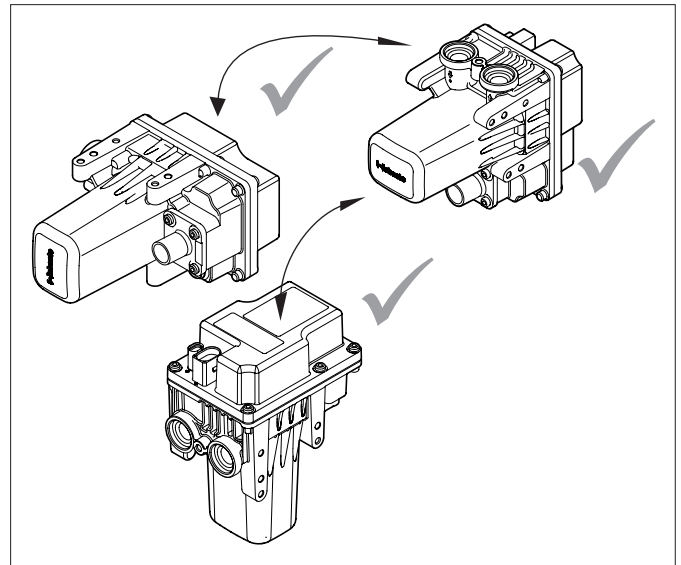

Fig. 03: Permissible installation positions
- ▶ Ensure the heater is self-bleeding; direct the coolant outlet connection piece upwards between 0° and 90°. See Fig. 03.